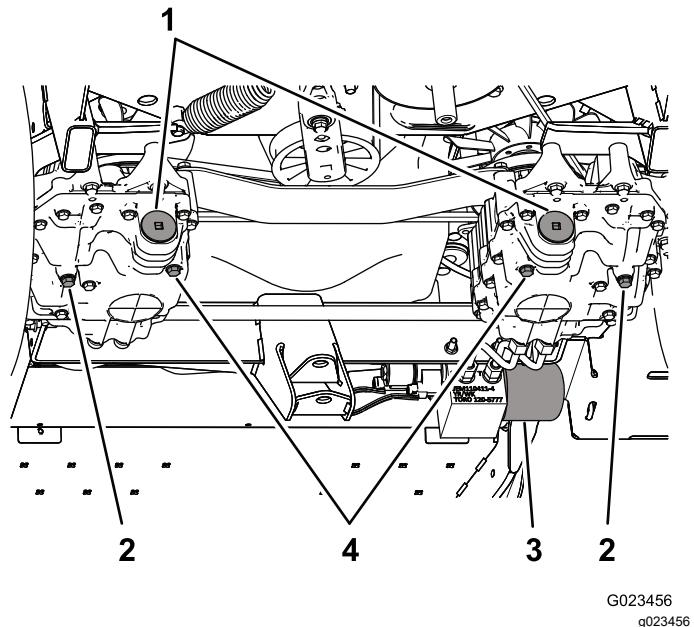

Figure 69
3. Remove the drain plug on the pump side and the drain plug on the gear side (Figure 69), and allow the oil to drain completely.